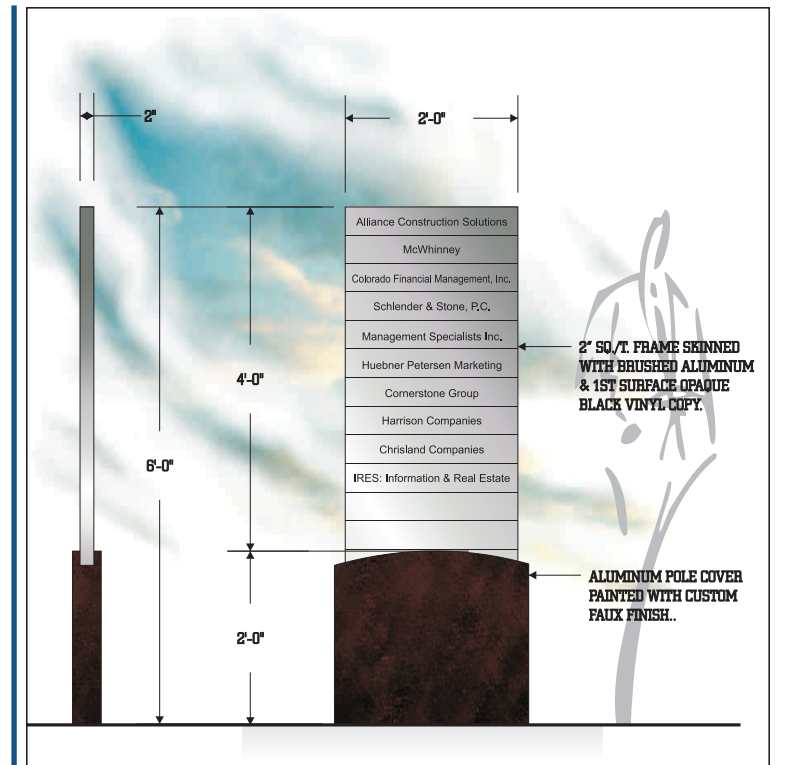

fig. 10a Pedestrian Directional Signs
10.2.1 Project Pedestrian Directional Signs are intended to inform pedestrians about destinations within a project and designed to complement the overall signage theme of that project (fig. 10a).